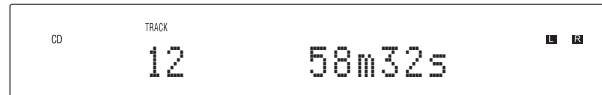

Figure 8
2. Press the OPEN/CLOSE Push-button and the disc tray will close. Refer to figure 7. Loading of the CD Disc’s Table of Contents (number of tracks and total playing time) will be indicated on the Front Panel Display. Refer to figure 8.